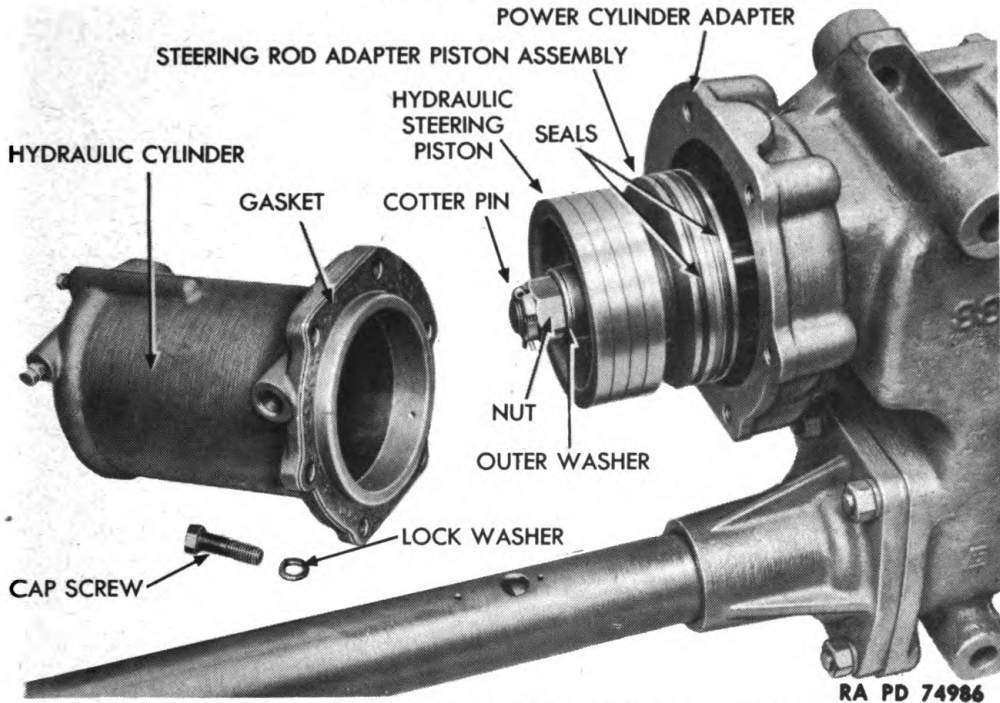

Figure 9 — Steering Hydraulic Cylinder — Removed
a. **Description** (fig. 9). The steering hydraulic cylinder is a hollow steel casting that is secured to the top of the steering gear housing. Oil lines connect the control valve to the top and bottom of the cylinder. The hydraulic steering piston operates inside the cylinder, and the piston is secured on one end of the piston rod. The opposite end of the piston rod is secured to a slide block in which the steering lever bearing operates. The cam stud is mounted on roller bearings in the opposite end of the lever and engages the cam grooves.
a. **Disassemble Piston** (figs. 9 and 16). Remove cap screws and lock washers that hold steering hydraulic cylinder, and remove cylinder with gasket. Remove cotter pin and nut from piston pin. Then remove piston pin outer washer, piston, piston pin inner washer, and steering rod adapter piston assembly from piston pin. Remove two steering power seals from piston, then remove oil seal.
a. **Assemble Piston** (figs. 9 and 16). Install two steering power and oil seal rings on piston. Install steering rod adapter piston, inner washer, hydraulic steering piston, and piston pin outer washer on piston pin. Install nut and cotter pin on piston pin. Install cylinder with gasket on steering housing, and fasten with cap screws and lock washers.